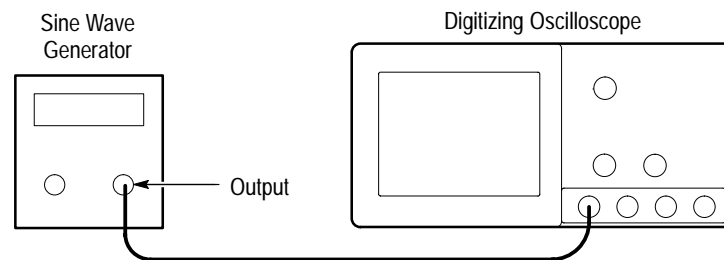

Figure 1–13: Initial Test Hookup
c. *Hook up the test-signal source:* Connect, through a 50 Ω precision coaxial cable, the signal output of a sine wave generator to **CH 1** (see Figure 1–13).